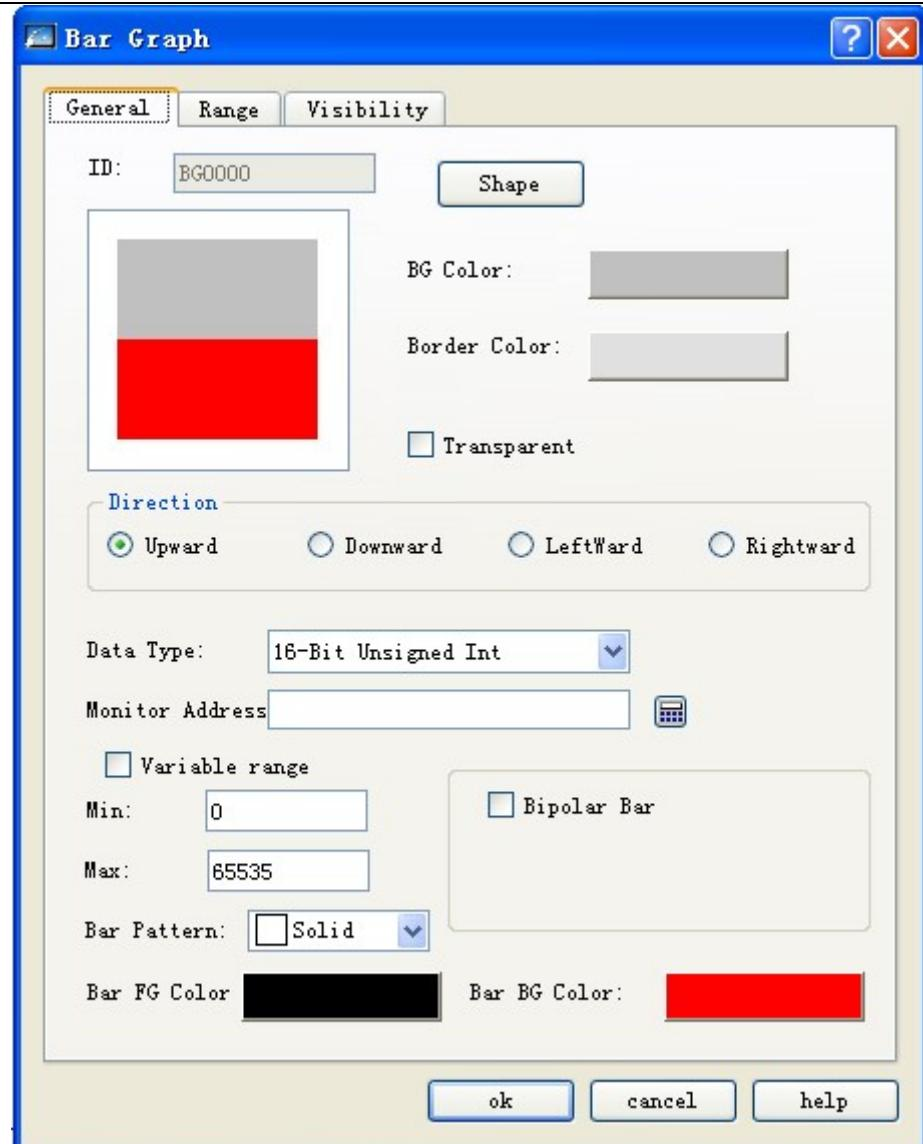

Figure 4-107: Bar graph dialog
1. Click Bar Graph icon in the tool bar or the Bar Graph command in Tool menu, and then a dialog as shown in Figure 4-107 will appear.
- Border color: Border color of the bar graph. Setting of border color in Figure 4-107 is invalid, and you can choose another graph in Shape and then choose the border color to see the change.